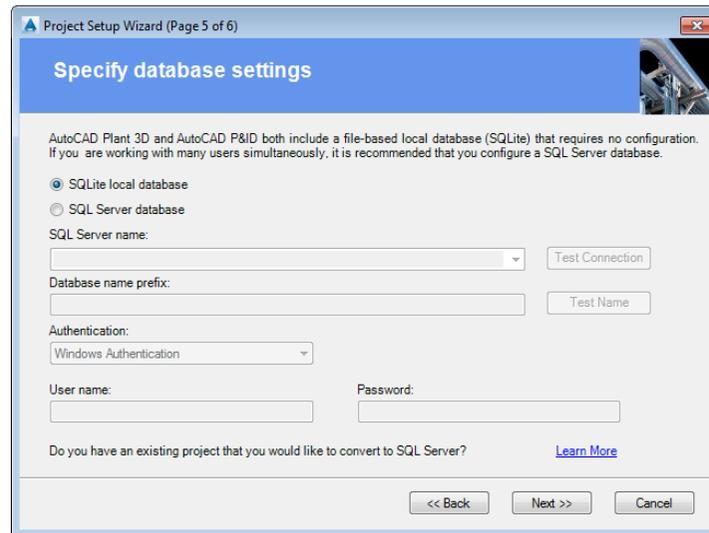

Figure 2-6 The Specify database settings page
- Accept the default settings in this page and choose the **Next** button; the **Specify database settings** page will be displayed, as shown in Figure 2-6.